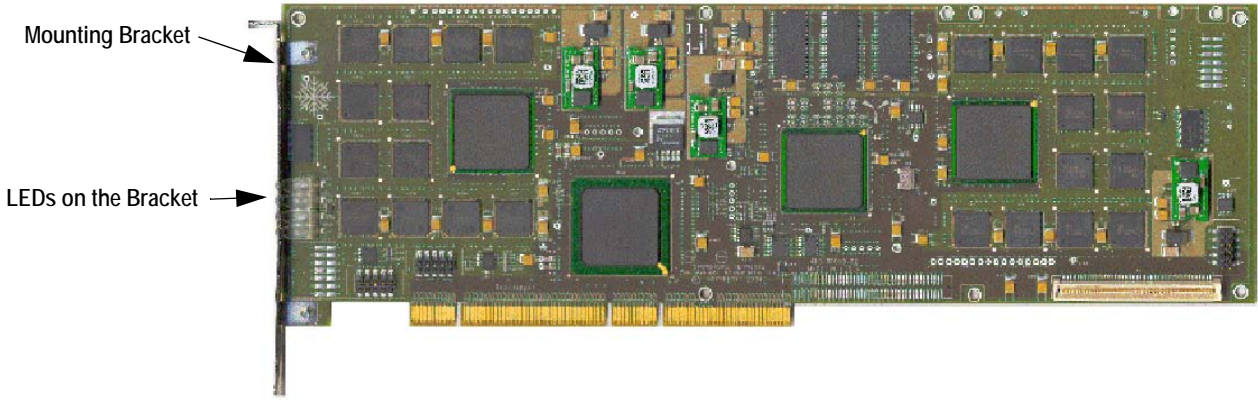

Figure 1. EDP-10 Board
5. Screw the board's mounting bracket securely to the computer's frame. See Figure 1.